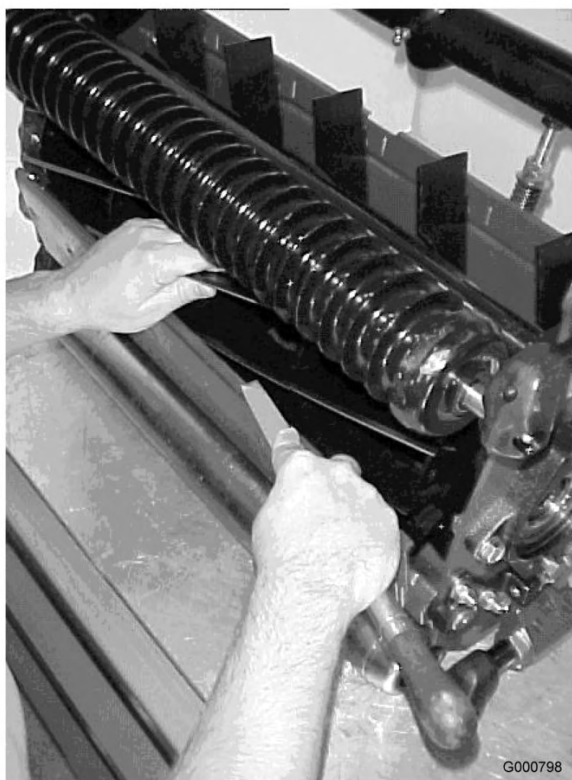

Figure 86
11. When the cutting unit is adequately sharpened, a burr will form on the front edge of the knife. Using a file, carefully remove the burr without dulling the cutting edge (Figure 86).